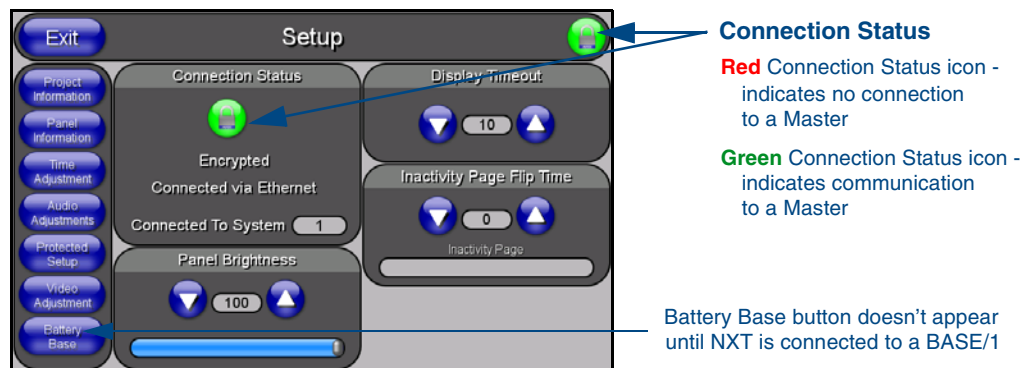

FIG. 24 Setup page
1. Press the grey Front Setup Access button for **3 seconds** to open the Setup page (FIG. 24).